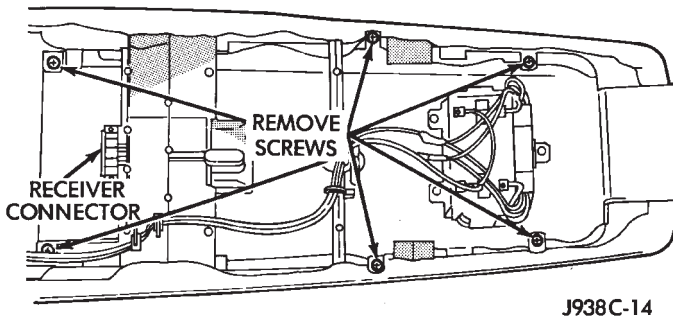
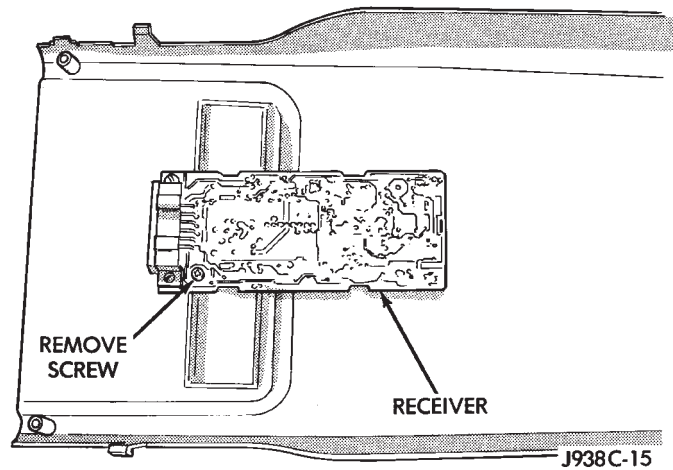

Fig. 7 Rear Overhead Console Panel Removal
Fig. 8 Receiver Removal/Installation
- (5) Remove 6 screws holding rear half of console (Fig. 7).
- (6) Release 4 clips, 2 front and 2 rear, and separate cover out from console.
- (7) Remove the screw and the printed circuit board can be removed (Fig. 8).